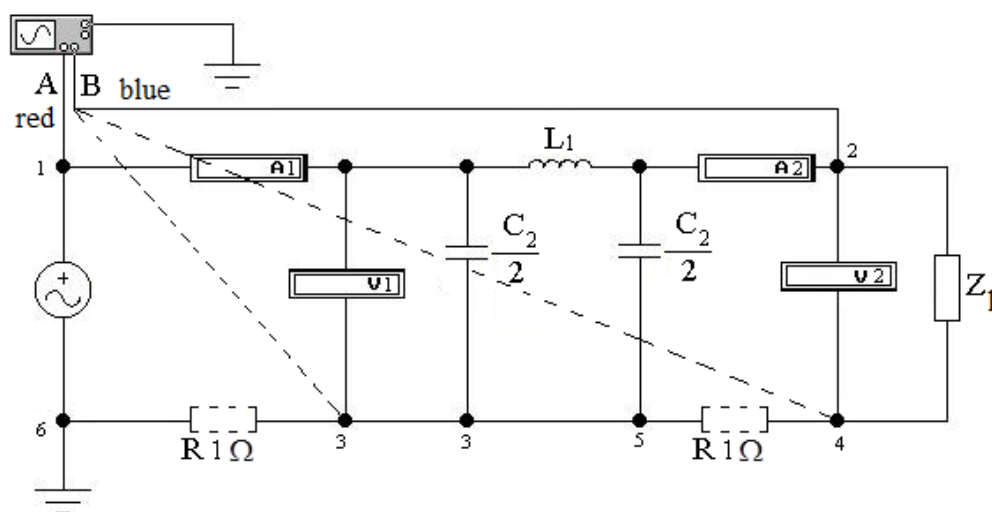

Figure 6.1
6.2.1 Assemble the electrical circuit by scheme in figure 6.1.